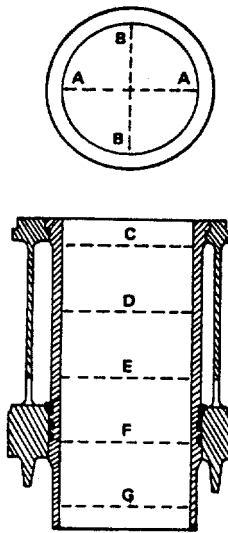

Figure 13-49. Cylinder Liner Check Points
- (10) Drive liners to seat with cylinder liner driver; when liner is near seat, tap gently to prevent bouncing off seat as liner is driven in place.
- (11) With piston at lowest possible point, check liner bore for roundness at several points within range of piston travel. See figure 13-49.
- (12) Check liner protrusion at four equidistant points with a gauge block to determine if protrusion is uniform and 0.004 to 0.006 inch (0.10 to 0.14 mm) above block.
- (13) Lubricate crankshaft side of bearing shells with a thin coat of clean engine lubricating oil. Slide upper connecting rod bearing shells into position between the crankshaft journals and rods. Be certain bearing shell locating tang makes firm contact with the recesses in the rod.
- (14) Place lower connecting rod